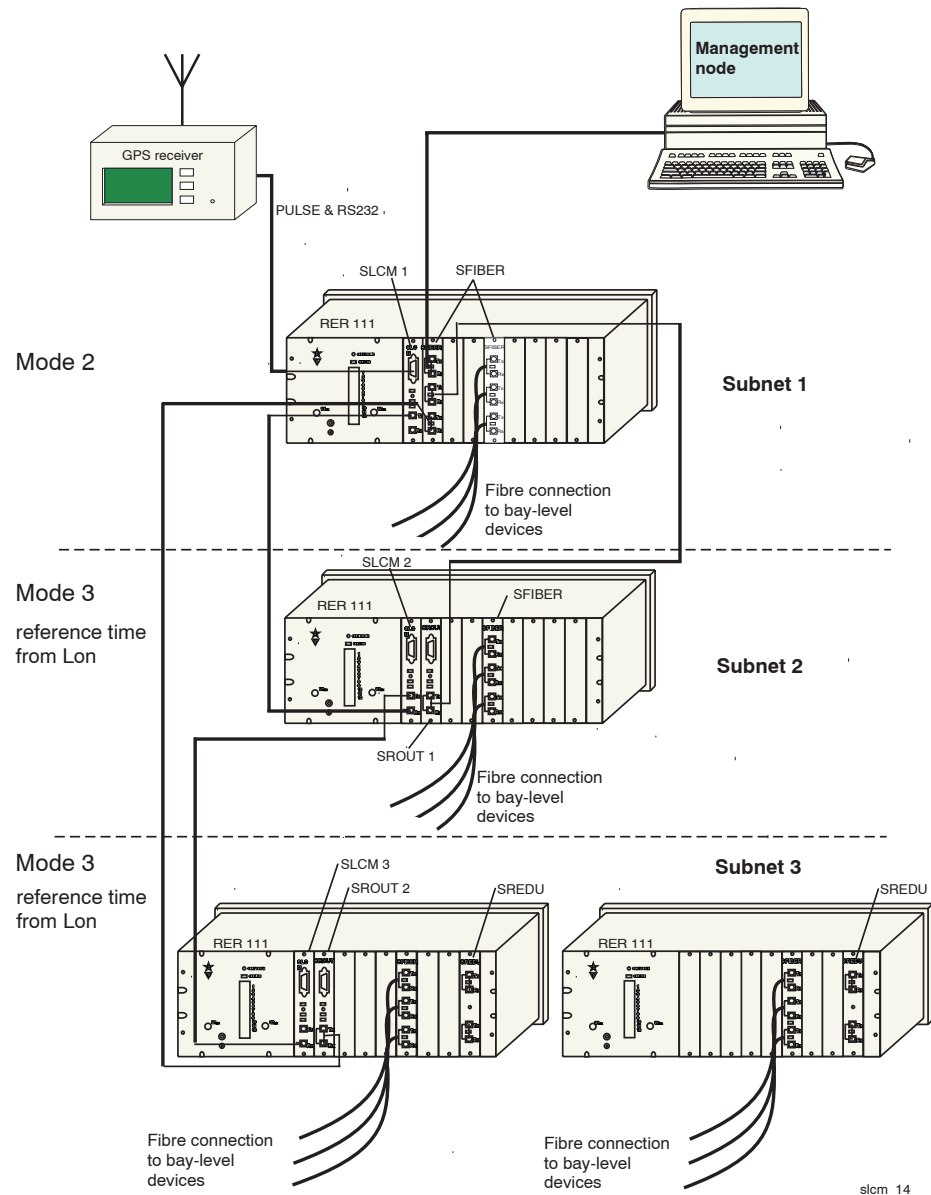

Fig. 7.1.-1 A system synchronized by multiple masters using only one GPS receiver as a clock reference.
- the topmost alternatives show a situation where the SLCM cards (or SLCMFO cards) are located in separate RER 111 Star Couplers. In the linking alternative on the right-hand side, the SLCM connected to the GPS is in the *pulse transmitter mode*. The other two SLCMs are in the *pulse forwarder mode*. Also see examples in figure 7.1.-1.
The system in figure 7.1.-1 consists of four RER 111 LON® Star Coupler units divided into three subnets. Subnet 1 and subnet 2 include one RER 111 unit each and subnet 3 includes two RER 111 units. The two RER111 units in subnet 3 are connected to each other by two SREDU double connection option cards and two fibre optic cables.